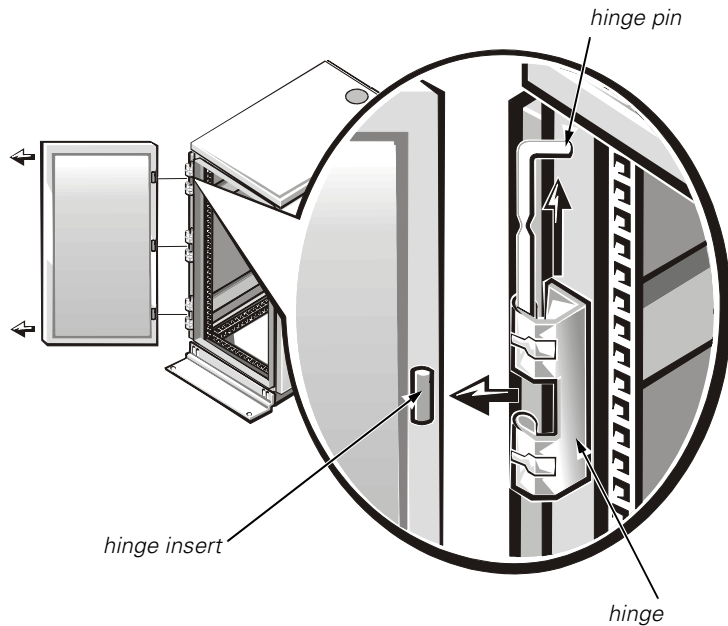

Figure 1-14. Removing the 24-U Rack Doors
3. Remove the front door from the rack as shown in Figure 1-14.
1. Lift the front door into position and align the hinges with the holes in the rack (see Figure 1-14).